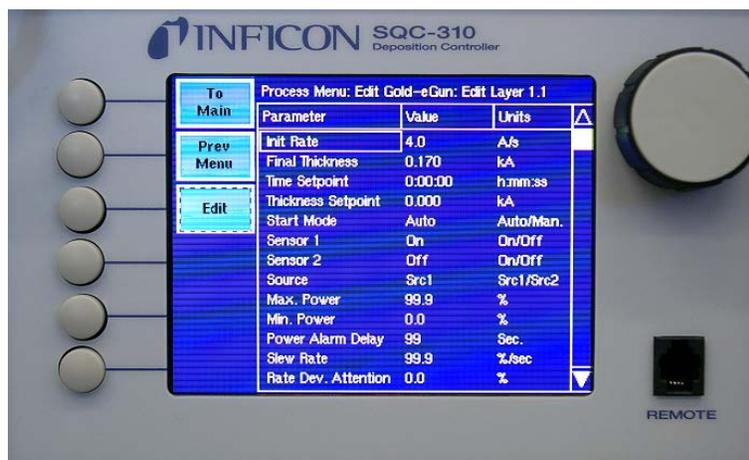

Fig. 18. Deposition controller (Inficon). Main screen, process menu, Layer menu and Layer settings are shown.
- 5) Set the deposition controller (Inficon, Fig. 18) to the corresponding material. To do so: